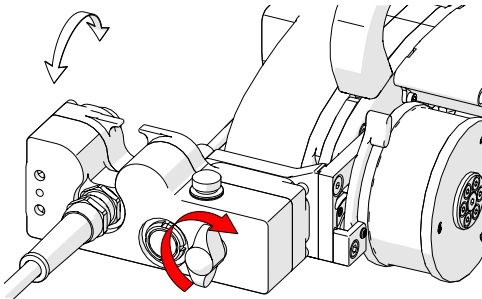

Fig. 104 - Tighten knob
6. Fasten the umbilical to the crawler's umbilical mount by tightening the black wing knob (*Fig. 104*).